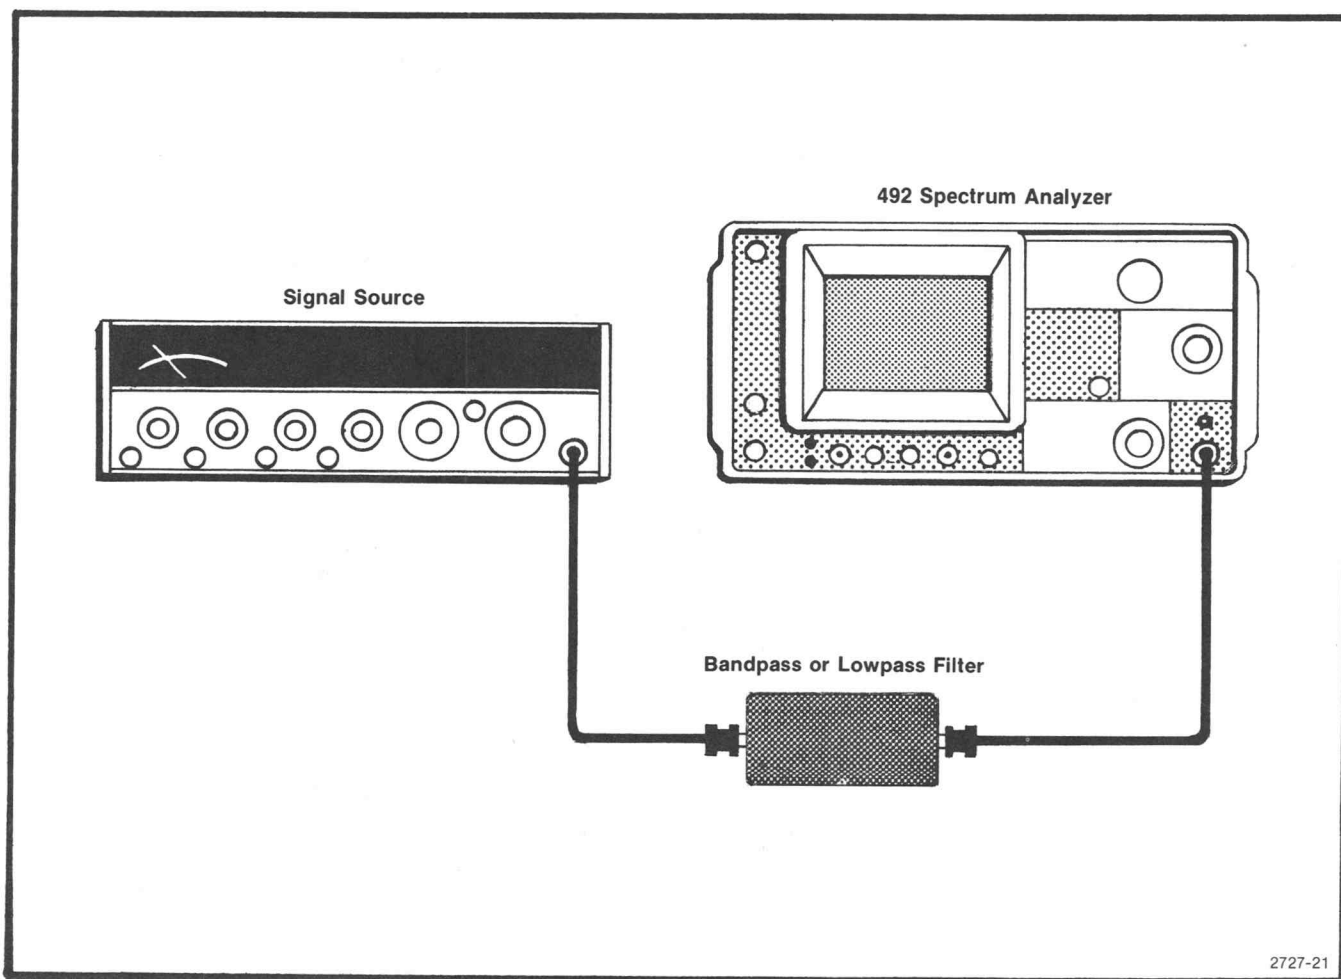

Fig. 3-15. Test equipment setup to check harmonic distortion.
b. Apply the output of the signal generator, through a low-pass or bandpass filter (with a minimum of 40 dB rolloff to attenuate multiples of the generator frequency), to the 492 RF INPUT (see Fig. 3-15). Frequency of the signal generator depends on the frequency characteristics of the filter. Ensure that the REF LEVEL is in the MIN DISTORTION mode.